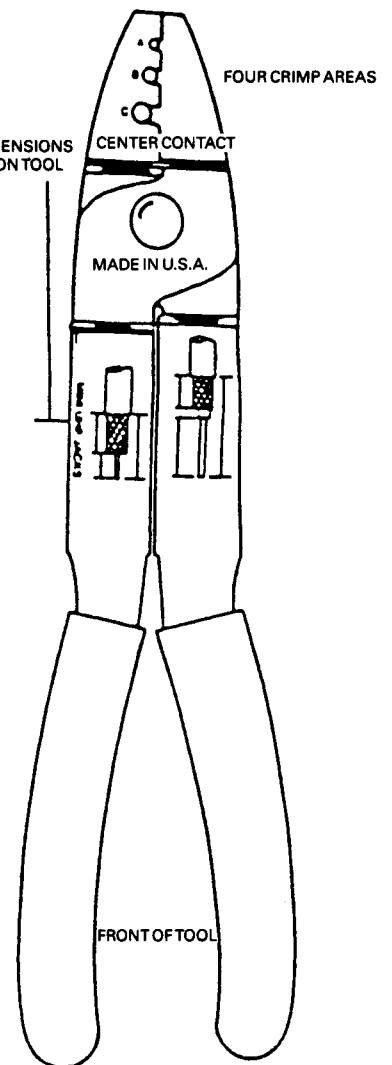
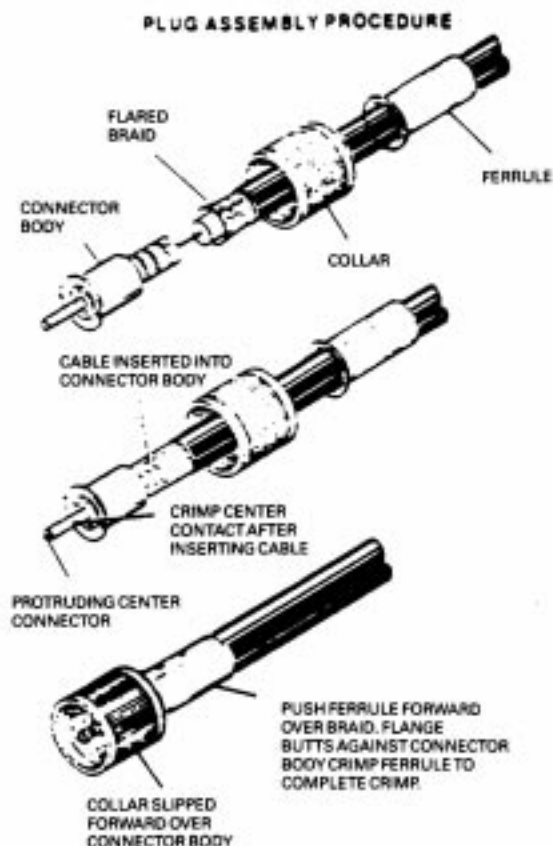

Figure 12.
Figure 13. Plug Assembly Procedure
2.3.1 Use Motorola hand tool part #66-80388A26 (Figure 12). A deluxe ratchet type tool is available; order part #66-80334B40.
Step 1. Slip ferrule and collar onto cable. See Figure 13.
Step 3. Insert stripped cable into plug body until conductor is exposed (front end) and dielectric bottoms inside body. See Figure 13.
Step 4. Crimp center contact using proper crimp section of tool. See Figure 12 marked "CENTER CONTACT."
Step 5. Push collar forward onto plug assembly. Fit cable braid over the support sleeve of the connector. See Figure 13.
Step 6. Push ferrule over braid until flange butts against connector body. Refer to Figure 13. Using the correct crimp area of the tool, crimp the ferrule close to the plug body. See Figure 12, crimp location "C." Crimp ferrule a second time close to the cable end.